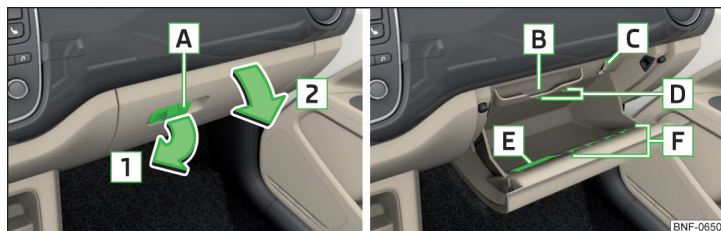

Fig. 71 Open storage compartment / interior of the storage compartment
Storage compartment » Fig. 71
- If there is a folding hook » Fig. 73 on page 58 on the handle » Fig. 71, remove any items hanging from it.